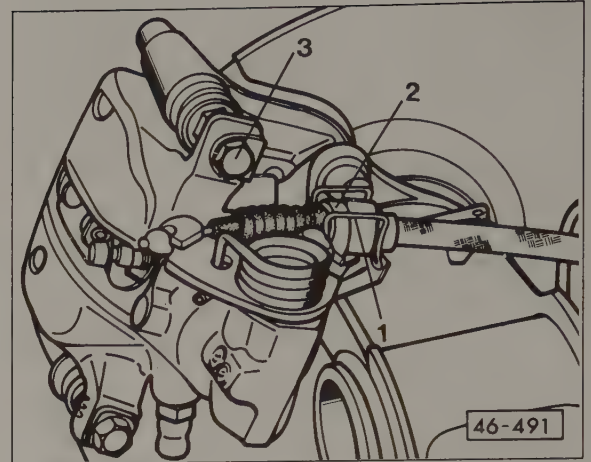
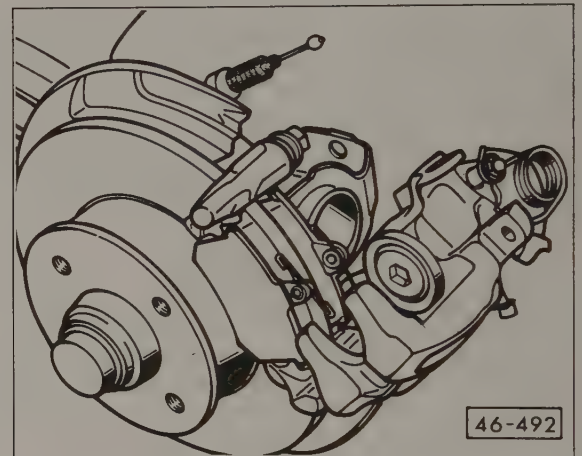

Fig. 7-2. Wire clip (1) to be removed when disconnecting parking brake cable from cable guide (2). Upper caliper mounting bolt is at 3.
Fig. 7-3. Upper caliper mounting bolt removed and caliper pivoted downward on lower guide pin for removal of brake pads.
2. Remove the wire clip that secures the parking brake cable to the brake caliper, as shown in Fig. 7-2, and unhook the cable from the actuating lever. Slide the cable out of the cable guide.
3. Remove the upper self-locking caliper mounting bolt from the brake caliper. See Fig. 7-2. Hold the guide pin with an open-end wrench to remove the bolt. Pivot the caliper downward off the brake pads, as shown in Fig. 7-3.